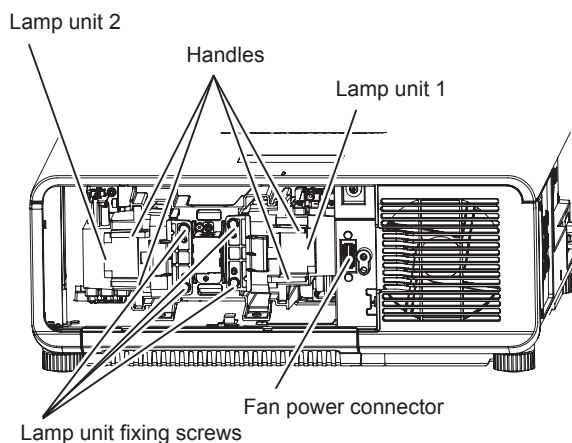

Fig. 2
2) Pull out the air filter case. (Fig. 2)
- 3) **Remove the lamp unit. (Fig. 2)**